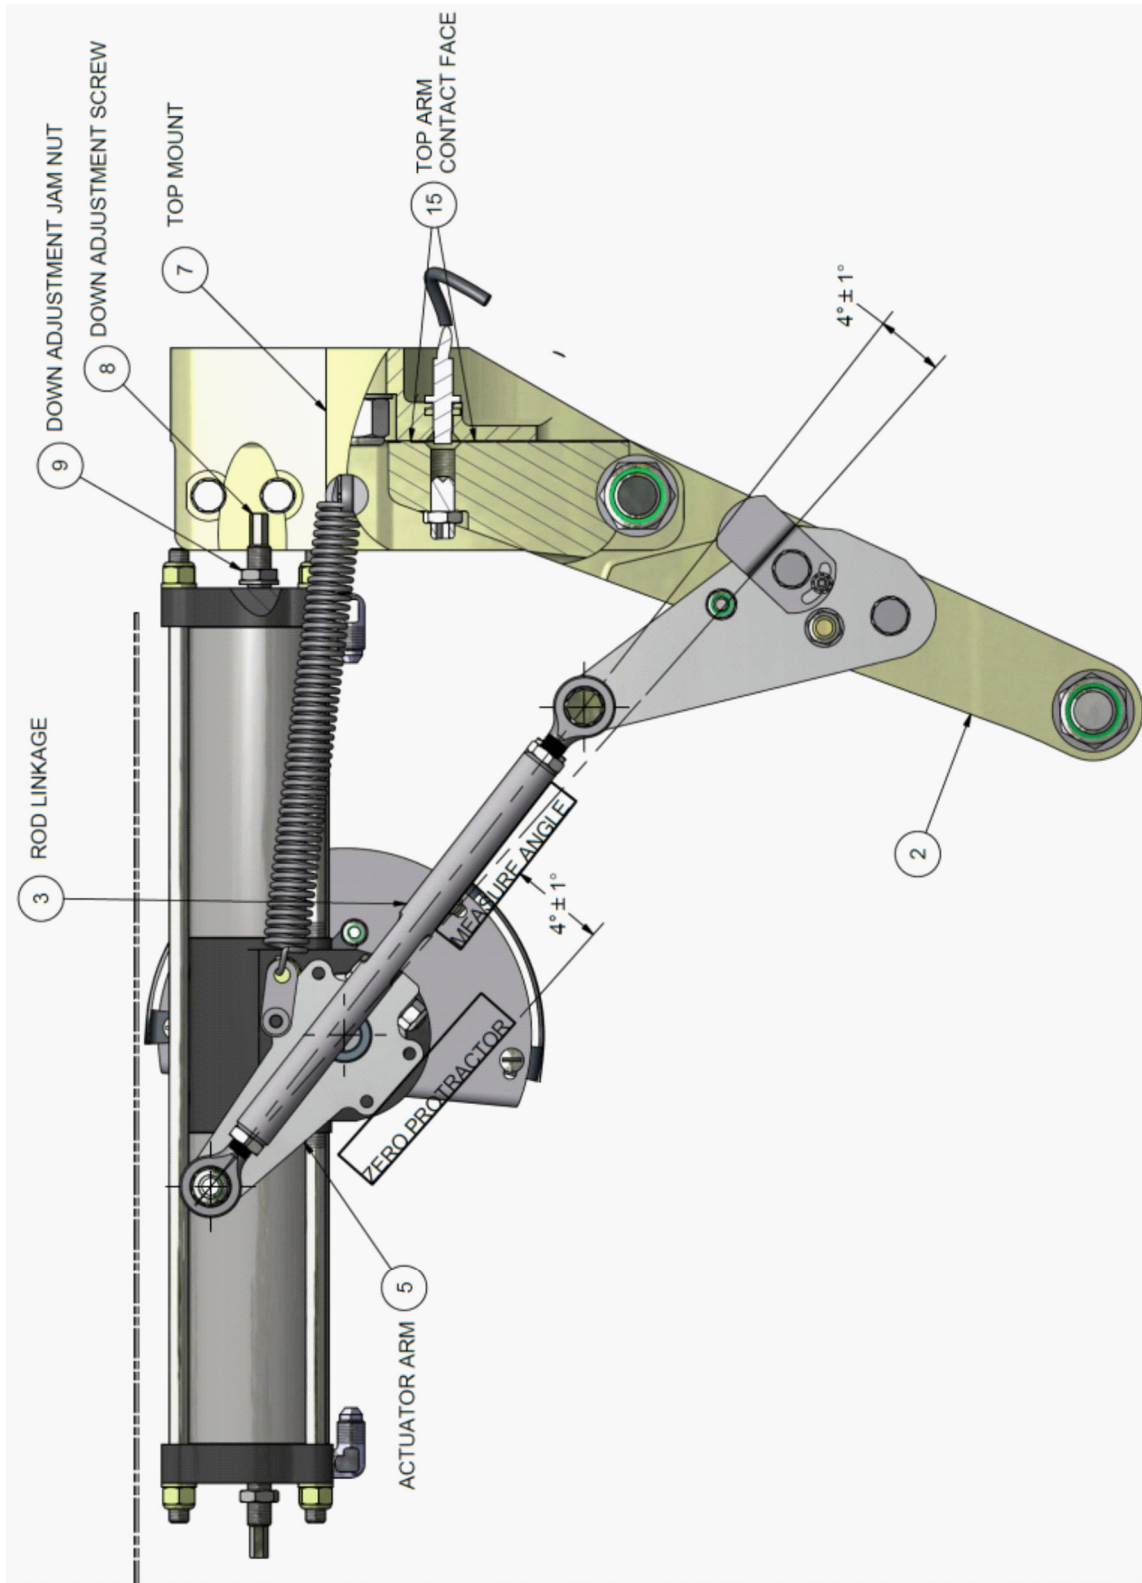

FIGURE 4-4B: MAIN GEAR ADJ. DOWN
Zero the protractor. See Figure 4-4B. Then place the protractor on the top or bottom of the rod linkage. The measured angle should be $4^{\circ} \pm 1^{\circ}$. Repeat for the other actuator arm and rod linkage by zeroing the protractor on the other actuator arm and measuring the rod linkage angle.
28. Check the operation of the over center down lock. As the actuator rotates causing the contact faces to touch, the actuator arm should continue to rotate and “snap” past Top Dead Center (TDC). Make sure that there is preload on the linkage rods so that contact faces remain touching past TDC. Push and pull on the Top Arm Assembly (Item 2) to ensure it is locked over center. The Top Arm Assembly needs to be contacting the Top Mount (Item 7) when the gear is extended to properly transfer the landing loads. Ensure Top Arm and Top Mount are making contact by sliding a 3-inch wide piece of paper in (See Figure 4-4B and photo on this page), then moving gear to down and locked position. If paper is tight, gear is rigged correctly. If paper is able to slide out, then the Top Arm and Top Mount are not making proper contact and need further adjustment.
2. Loosen the jam nut on the Gear Down Proximity Switch located on the back of the Main Gear Top Mount. Thread the Gear Down Proximity Switch in or out until the face of the sensor is flush with the face of the Main Gear Top Mount. Reference Figure 4-4B. Tighten the jam nut on the proximity switch to 10 +/- 3 inch-pounds.